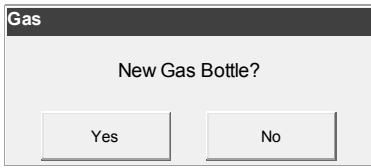

Fig. 6-25 New Gas Bottle
- In the **<New Gas Bottle?>** screen (Fig. 6-25), press **Yes** to confirm the installation of a new gas bottle.